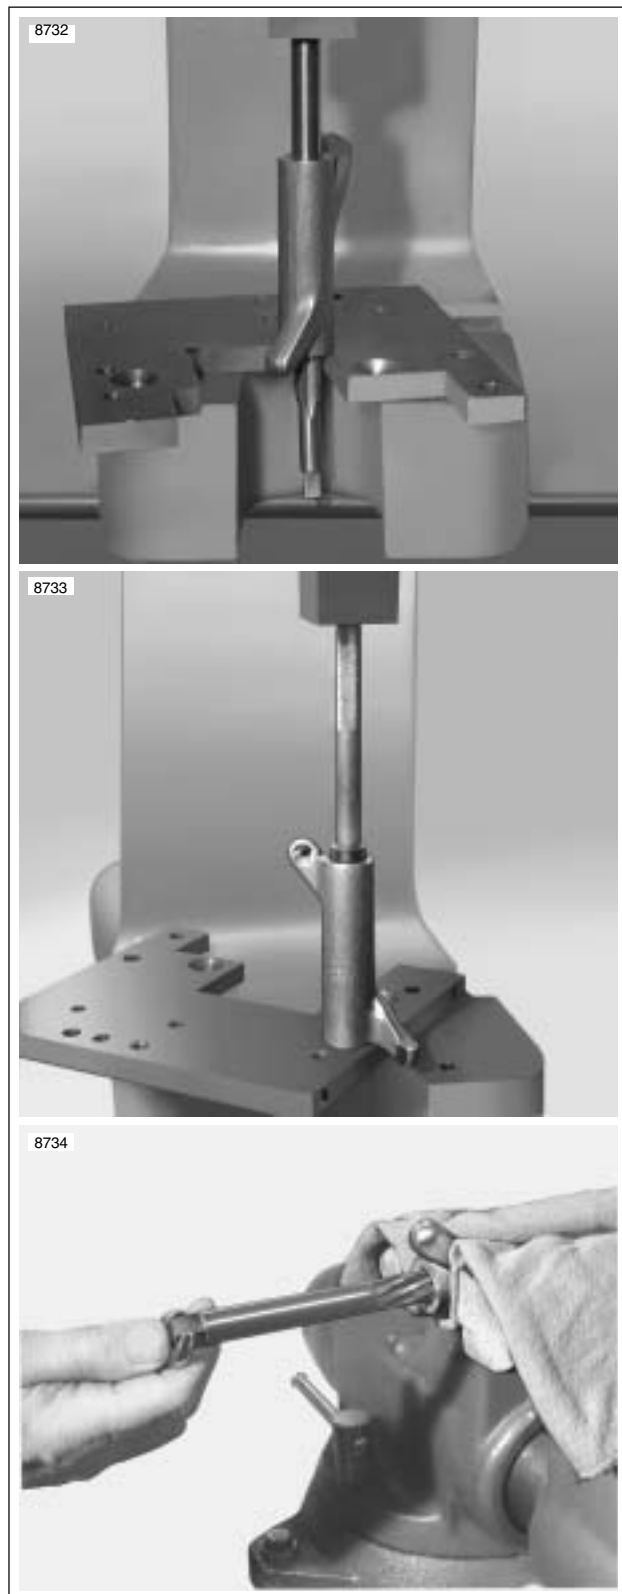

Figure 3-75. Replacing Rocker Arm Bushings
1. See Figure 3-75. To replace worn bushings, press or drive them from the rocker arm. If bushing is difficult to remove, turn a 9/16-18 tap into bushing. From opposite side of rocker arm, press out bushing and tap using a discarded rocker arm shaft.